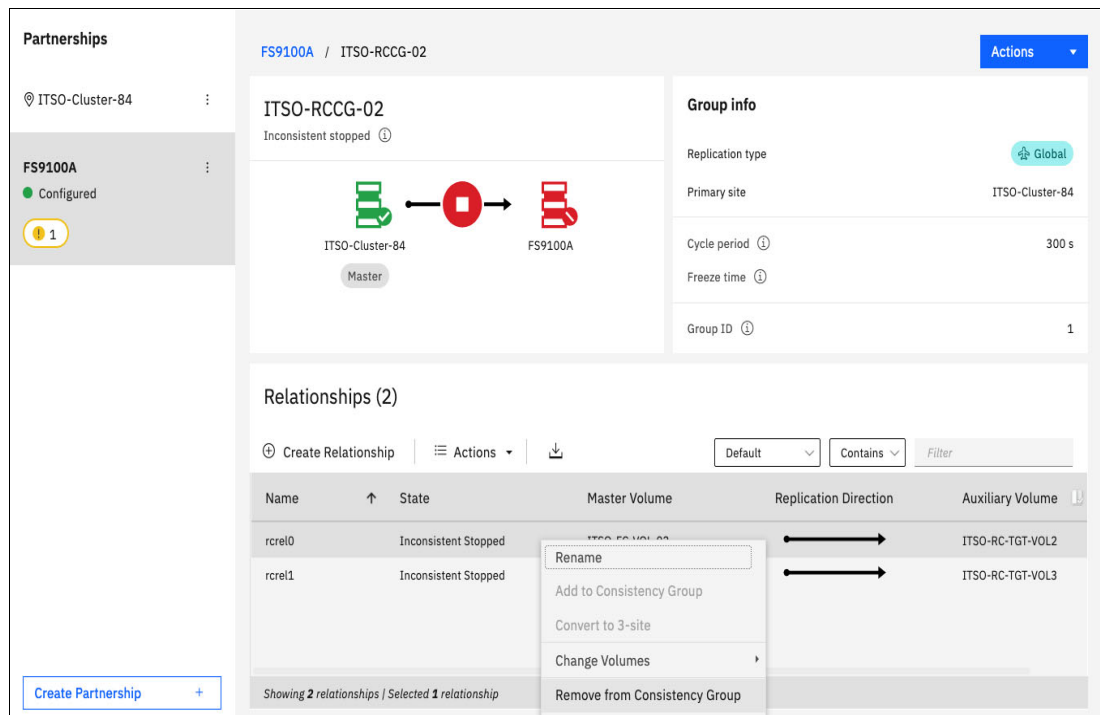

Figure 10-132 Removing relationships from a consistency group
3. Right-click the relationships to be removed and select **Remove from Consistency Group**, as shown in Figure 10-132.